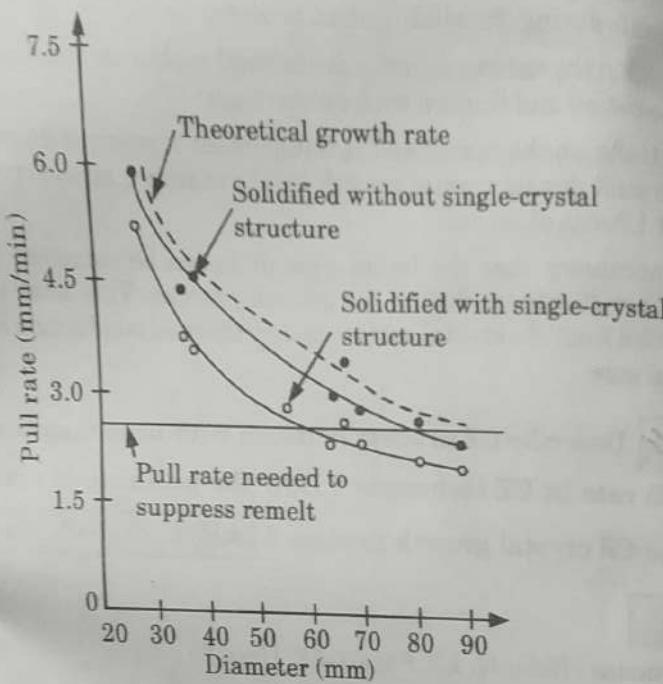

Fig. 1.4.1.
3. As a result, the pull rate generally varies inversely with the diameter as shown in Fig. 1.4.1.
7. We observe from Fig. 1.4.1 that large diameters preclude this pull rate for crystal diameters above 75 mm.